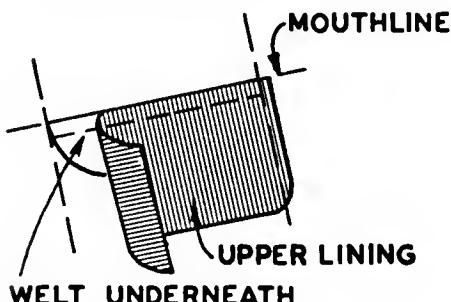

Fig. 133. Adding the upper lining.
- Place the lining on top of the welt so that the stitching line will coincide exactly with the welt stitching line (Fig. 133).